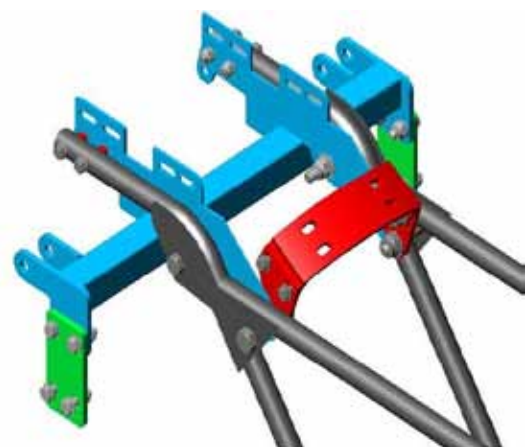

Figure 39
- Install Body Frame Hanger Plates (slotted holes at top) to left and right ends of Shock Mount. Figure 39